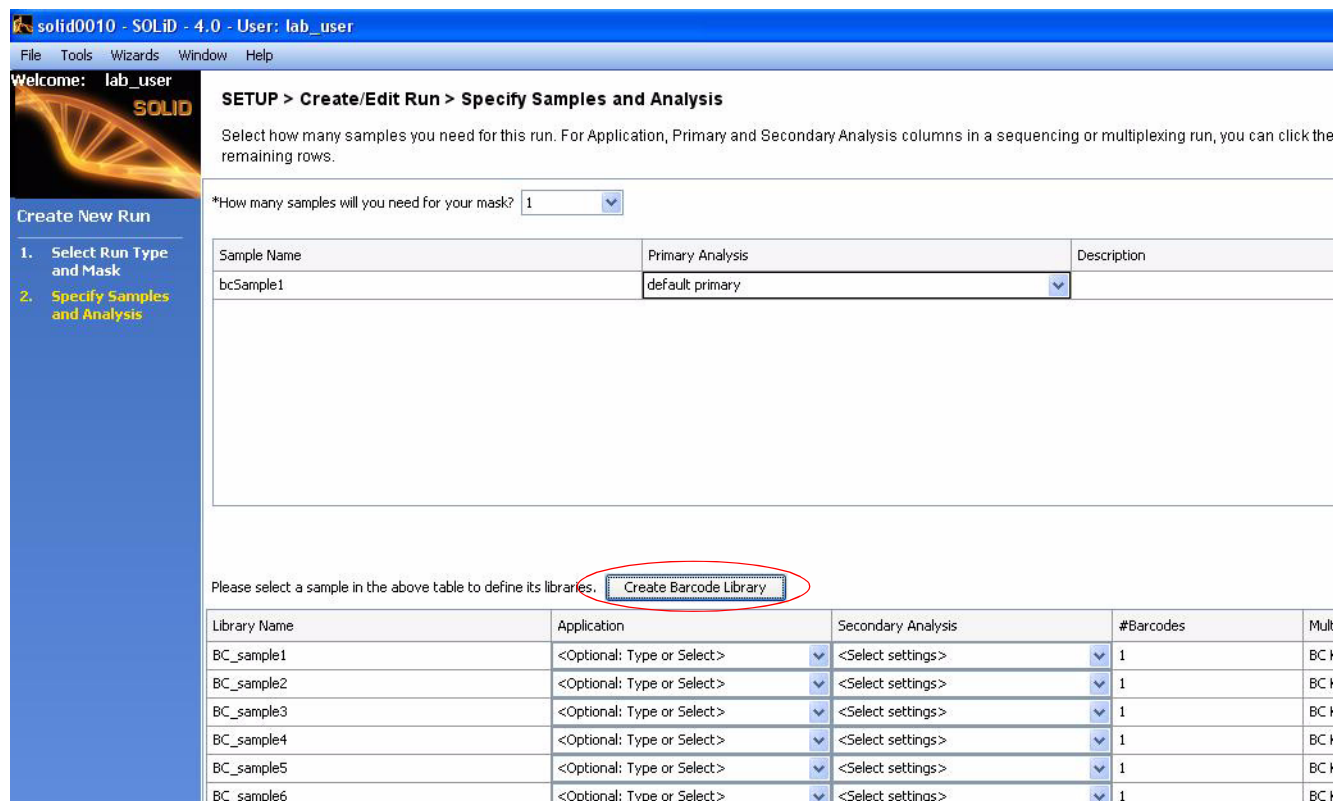

Figure 45 Complete the information in the Specify Samples and Analysis pane.
4. Complete the information in the Specify Samples and Analysis pane (see Figure 45 on page 79):
- If performing a paired-end sequencing run, click **Create New Library** to begin entering library information for that sample (see Figure 45).
For a barcode sample in a fragment sequencing run, select **Barcoded Sample** and click **Create New Library** to begin entering library information for that sample (see Figure 45).